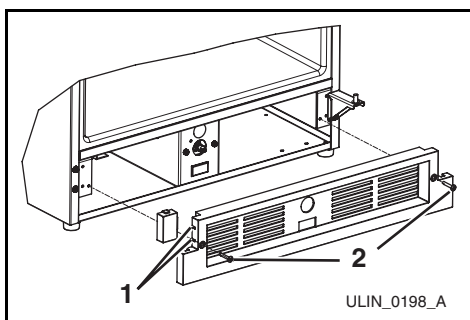

Figure 46
18. Make sure grille cap is behind grille in slots provided in grille **(Figure 46, 1)** before attaching grille to unit, and secure but do not overtighten both grille screws **(Figure 46, 2)**.